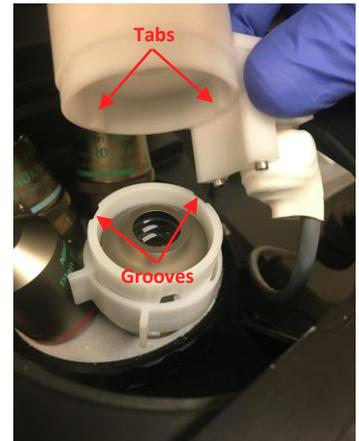

Figure 3. Removal of release device with collar fixed to objective.
2. The Motorized Release Device can also be removed while the tightening collar remains fixed to the microscope objective (**Figure 3**). Re-install the cap on the release device and lift the release device vertically such that the main body of the release device detaches from the tightening collar. This feature enables quick removal from and attachment to the microscope to keep it uncluttered for other users. To reattach the release device to the tightening collar, simply align the three tabs on the inside of the release device with the corresponding grooves on the tightening collar and slide it on.